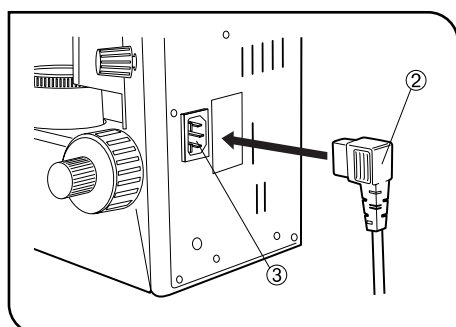

Fig. 5
1. Connect the power cord plug ② to the AC receptacle ④. (Fig. 5)